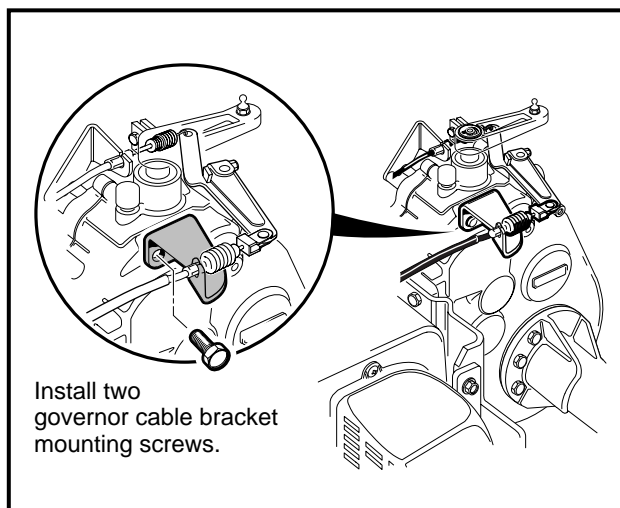

Figure 16-87 Governor Cable Bracket
7. Install the governor cable bracket on transaxle case. Tighten the mounting screws to 134 in-lb (15.1 N·m) (**Figure 16-87, Page 16-35**).